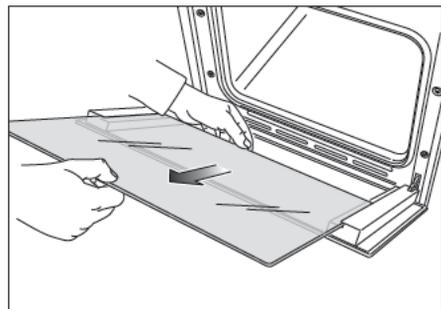

Fig.23d
- Gently pull out the inner pane of glass (Fig. 23d).